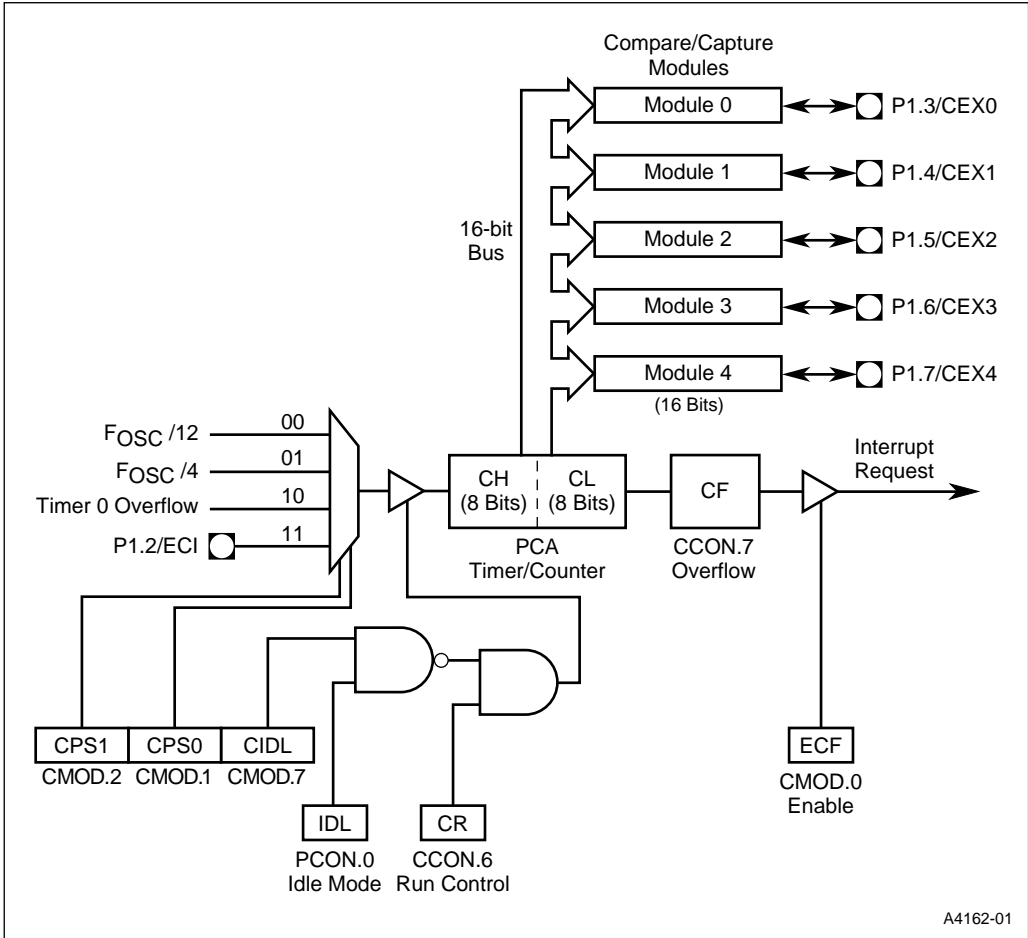
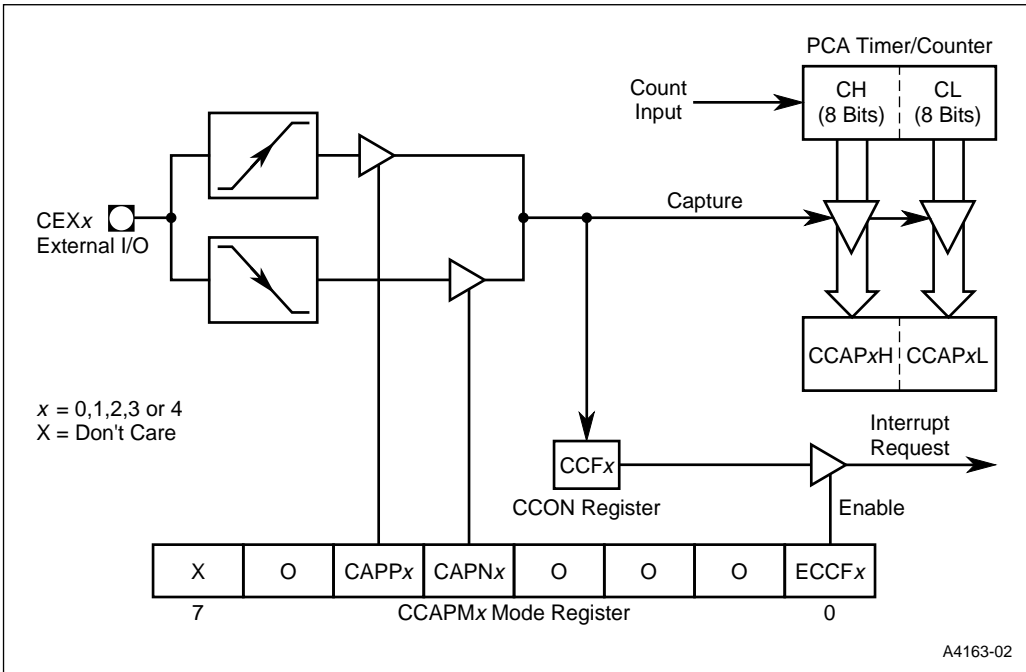

Figure 8-1. Programmable Counter Array
Figure 8-2. PCA 16-bit Capture Mode
The programmable counter array (PCA) consists of a 16-bit timer/counter and five 16-bit compare/capture modules. The timer/counter serves as a common time base and event counter for the compare/capture modules, distributing the current count to the modules by means of a 16-bit bus. A special function register (SFR) pair, CH/CL, maintains the count in the timer/counter, while five SFR pairs, CCAPxH/CCAPxL, store values for the modules (see Figure 8-1). Additional SFRs provide control and mode select functions as follows:
The PCA timer/counter and the five compare/capture modules share a single interrupt vector. The EC bit in the IE special function register is a global interrupt enable for the PCA. Capture events, compare events in some modes, and PCA timer/counter overflow set flags in the CCON register. Setting the overflow flag (CF) generates a PCA interrupt request if the PCA timer/counter interrupt enable bit (ECF) in the CMOD register is set (Figure 8-1). Setting a compare/capture flag (CCF_x) generates a PCA interrupt request if the ECCF_x interrupt enable bit in the corresponding CCAPM_x register is set (Figures 8-2 and 8-3). For a description of the 8XC251SB interrupt system see Chapter 5, "Interrupt System."
Figure 8-1 depicts the basic logic of the timer/counter portion of the PCA. The CH/CL special function register pair operates as a 16-bit timer/counter. The selected input increments the CL (low byte) register. When CL overflows, the CH (high byte) register increments after two oscillator periods; when CH overflows it sets the PCA overflow flag (CF in the CCON register) generating a PCA interrupt request if the ECF bit in the CMOD register is set.
Setting the run control bit (CR in the CCON register) turns the PCA timer/counter on, if the output of the NAND gate (Figure 8-1) equals logic 1. The PCA timer/counter continues to operate during idle mode unless the CIDL bit of the CMOD register is set. The CPU can read the contents of the CH and CL registers at any time. However, writing to them is inhibited while they are counting i.e., when the CR bit is set.
The logical configuration of a compare/capture module depends on its mode of operation (Figures 8-2 through 8-5). Each module can be independently programmed for operation in any of the following modes:
The capture mode (Figure 8-2) provides the PCA with the ability to measure periods, pulse widths, duty cycles, and phase differences at up to five separate inputs. External I/O pins CEX0 through CEX4 are sampled for signal transitions (positive and/or negative as specified). When a compare/capture module programmed for the capture mode detects the specified transition, it captures the PCA timer/counter value. This records the time at which an external event is detected, with a resolution equal to the timer/counter clock period.